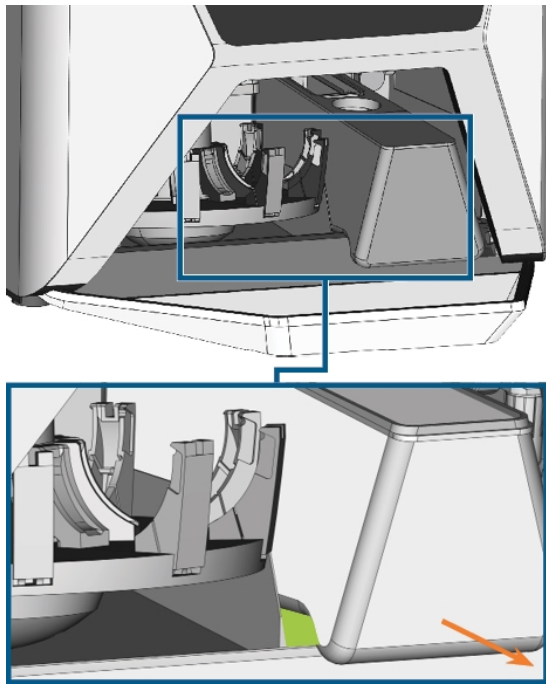

FIG. 37 REMOVING THE COOLING LIQUID TANK FROM THE MULTI-PURPOSE COMPARTMENT; GRAB TANK AT THE GREEN AREA
5. Pull the cooling liquid tank out of the compartment in the direction indicated by the arrow (☞ Fig. 37 on the facing page).